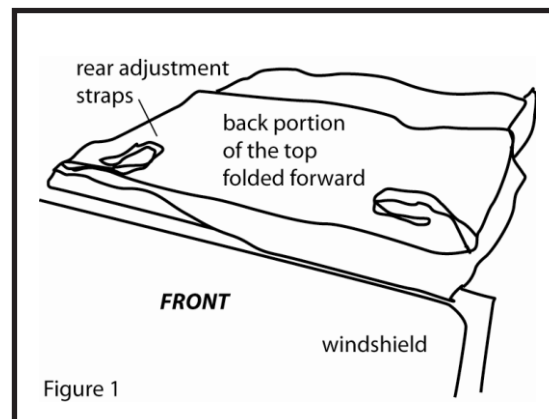

Figure 1
- Step 5.** Unfold your new Soft Top, set the windows aside for later use, taking care not to scratch windows. Place the top on the center of the roll bar and unfold. Spread the top out and taking care that the metal flat hooks at the end of the rear adjustment straps do not damage paint, glass or cause injury. See Figure 1.